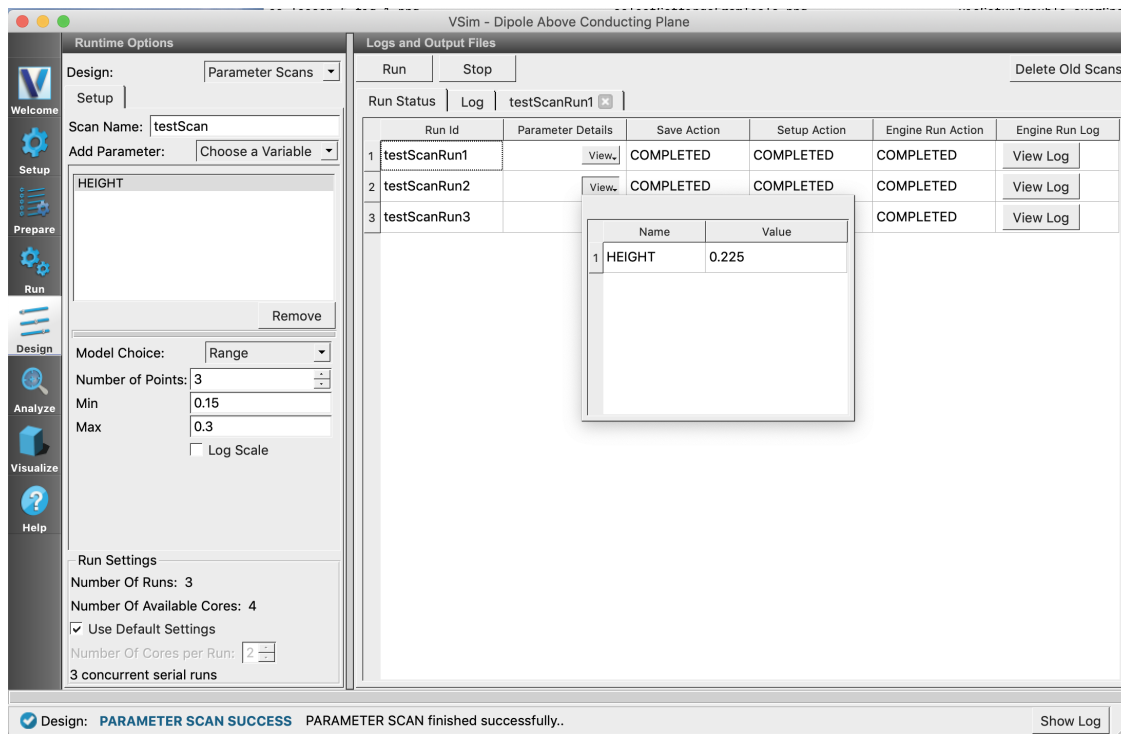

Fig. 12.9: View Variable and Value
- *Parameter Details* : Contains a button which when clicked, shows the variables and their values. See Fig. 12.9.